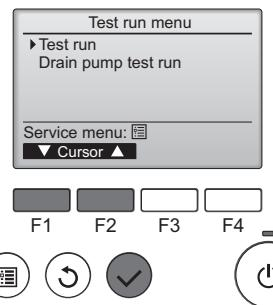

Fig. 6-4
- Select "Test run" with the [F1] or [F2] button, and press the [SELECT] button. (Fig. 6-4)